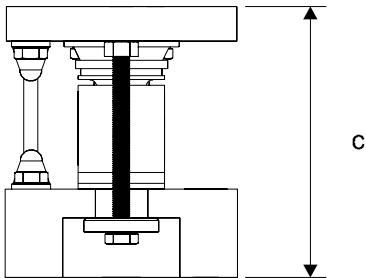

FIG. 11: HEIGHT DIMENSION C
Step 3. With the top plates installed, put the vessel support bracket with the top plate onto the pins of the load cells. Make sure that the sliding load cell pins are riding on the stainless plate. Make sure that the fixed pin is centered in the top plate housing. The horizontal position is not critical but the vertical position is. Use the C dimensions to determine the proper height between the support surface and the top of the top plate. (See Fig. 11)
- Use a box end wrench and replace the two (2) hex machine screws.
- Reinstall the ground strap and anti-lift off device. (See Figs. 11 & 13)